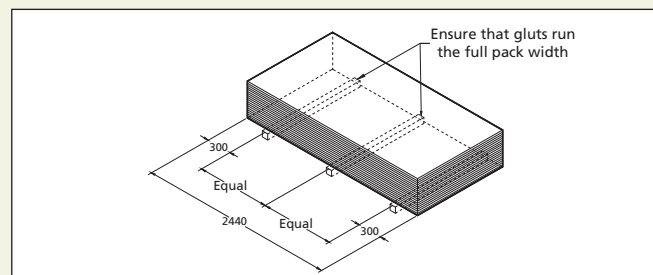

Figure 1
- o Provide at least three supports per 2400mm pack and four per 3600mm pack. (Refer Figure 1)